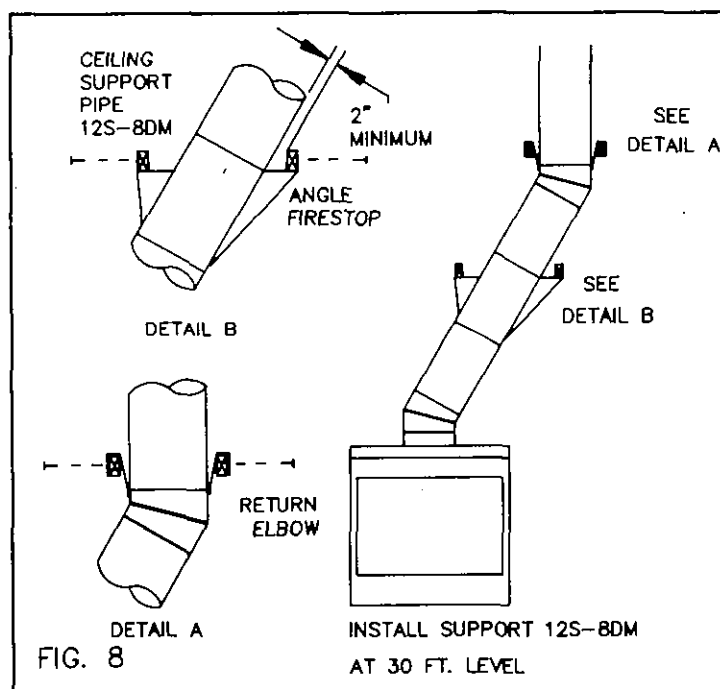

FIG. 8
2. Chimney weight above offset rests on return elbow. Straps must be securely nailed to rafters or joists (See FIG. 8 details A & B).